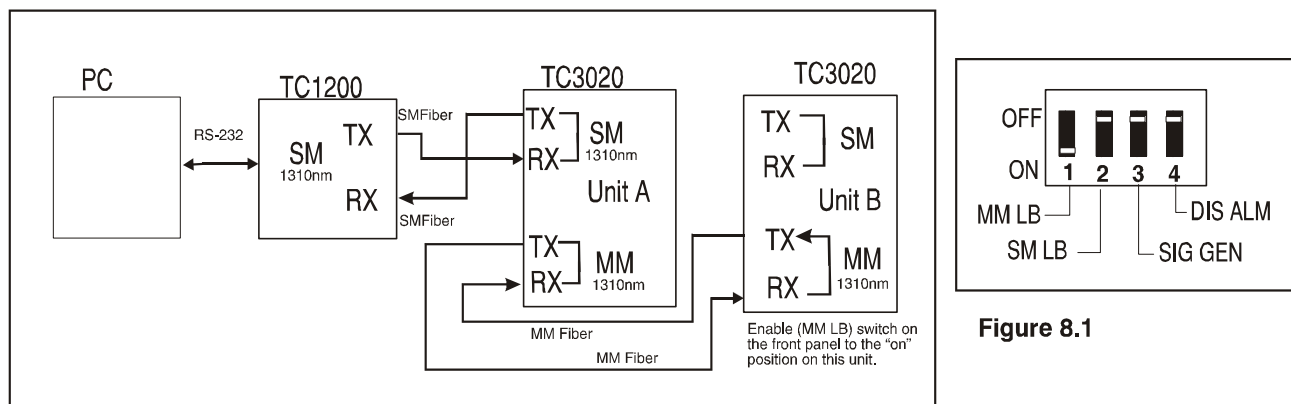

Figure 8. Multimode Loopback test on unit B.
D. Testing your TC3020 for performance will require the testing setup shown on Fig. 8 below. This test should be done using your PC's hyperterminal. You will need to locate the DIP switches on the front panel of Unit B and enable switch #1 (MM LB) to the "ON" position (as shown on figure 8.1) for this test.